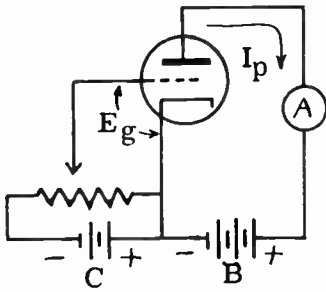
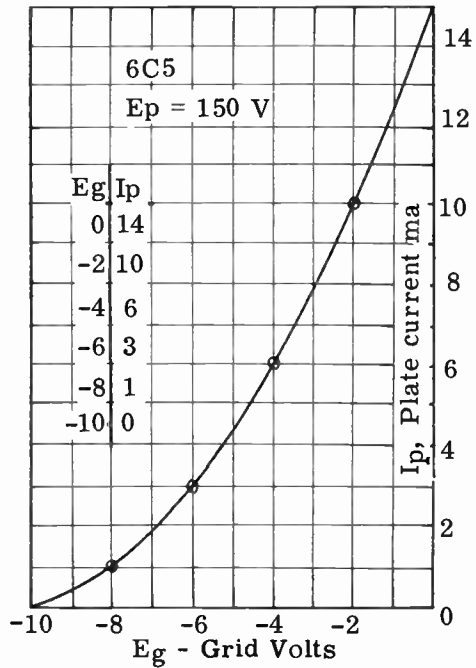
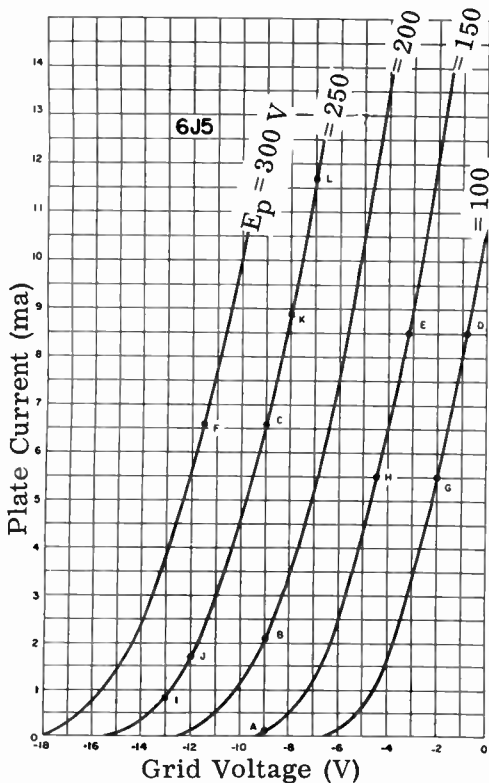
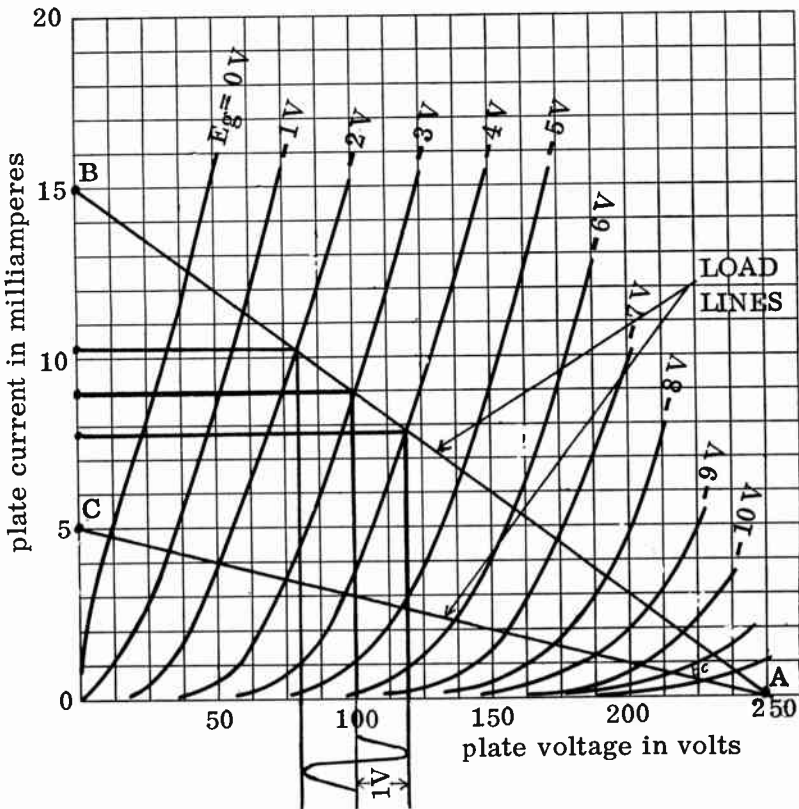

FIG. 8-3. OBTAINING DATA FOR  $E_g$ - $I_p$  CURVE.
FIG. 8-4.  $E_g$ - $I_p$  CURVE.
FIG. 8-5. FAMILY OF  $E_g$ - $I_p$  CURVES.
FIG. 8-9. FAMILY OF  $E_p$ - $I_p$  CURVES.
**PLATE CURRENT - GRID VOLTAGE CURVE.** Fig. 8-3 is a schematic of a triode circuit whose grid voltage is varied by a potentiometer placed across the "C" battery. Fig. 8-4 is a graph on which plate current readings have been plotted for different values of grid voltage. The horizontal direction represents the grid voltage, and the vertical direction represents the plate current. The plate voltage is kept constant. If we draw a line through the points that represent the various plate current readings, we obtain a curve known as the  $E_g$ - $I_p$  characteristic curve. Notice that if the grid is made sufficiently negative (minus 10 volts), the plate current drops to zero. At this point, the highly negative grid repels all the electrons back to the cathode area. As the grid voltage is made less negative (more positive), the electrons begin to flow to the plate. If we continue to make the grid voltage less negative, the plate current will continue to increase. If we reverse the C battery and make the grid positive with respect to the cathode, the plate
current keeps on increasing. As the grid voltage is made more positive, the plate current continues to rise. A point is soon reached (not shown in Fig. 8-4), where the plate current can no longer increase, regardless of further increases in positive grid voltage. This point is called the SATURATION POINT.
The voltage that is applied to the grid is called GRID BIAS VOLTAGE, or simply BIAS. The BIAS that cuts the plate current to zero is called the CUT-OFF BIAS. In Fig. 8-4, the cut-off bias is -10 volts. Whenever the voltage on the grid prevents current from flowing, we say that the tube is CUT OFF or that we have a BLOCKED GRID.
The curve of Fig. 8-4 was obtained with the plate voltage held constant. We can also take grid voltage and plate current readings for different values of plate voltage. The result of plotting all these points is a series of curves called a FAMILY OF CURVES. See Fig. 8-5. Notice that for a given grid voltage, the plate current increases with an increase in plate voltage. This is to be expected, since an increase in plate voltage should result in an increase in plate current.
**3 TRIODE  $E_p$ - $I_p$  CHARACTERISTIC CURVE.** In Fig. 8-4, the plate voltage was kept constant and plate current readings were plotted as we varied the grid voltage. Another popular characteristic curve is the  $E_p$ - $I_p$  curves of Fig. 8-9. Here, the grid voltage is kept constant and plate current readings are plotted as we vary the plate voltage. Notice that the plate current rises as the plate voltage increases. The  $E_p$ - $I_p$  curves are the ones that are usually found in tube manuals.
**3 THE LOAD LINE.** In Fig. 8-9, we have plotted a family of plate current, plate voltage curves for different values of grid bias. We have super-imposed on this family of curves, two lines, AB and AC. These lines are known as LOAD LINES. A different load line is drawn for a different amount of plate
Let us return to load line AB and see what happens when a 1 V. AC signal (2 volts peak to peak), is fed to the grid of an amplifier with a -3 volt bias. We can see from the graph that the plate current will vary from approximately 7.8 ma. to 10.2 ma., a change of 2.4 ma. By moving the operating point up and down the load line, from -2 volts to -4 volts, we can see at each instance what the exact plate current is. This is done by projecting horizontal lines to the left of the graph. We can see at each instance what the plate voltage is, by projecting vertical lines to the bottom of the graph. Fig. 8-9 shows these projections for the center point and the two peak points of the applied signal. We can see from the graph that the plate voltage swings between approximately 80 volts and 120 volts. This represents a 40 volt swing. Thus, in this particular amplifier, we have a voltage gain of 20 ( $40 \div 2 = 20$ ).